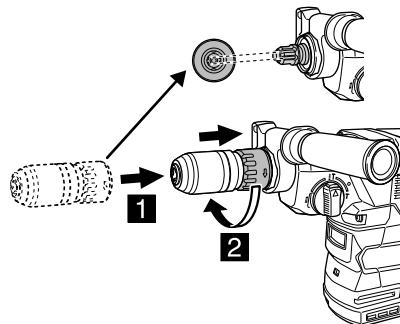

Fig. 20
- (1) Mesh the lock grip with spline.
- (2) Push in the lock grip, turning it in the arrow direction shown on the lock grip (Fig. 20).
- (3) To confirm that the lock grip is securely installed, tentatively try to pull out the lock grip.